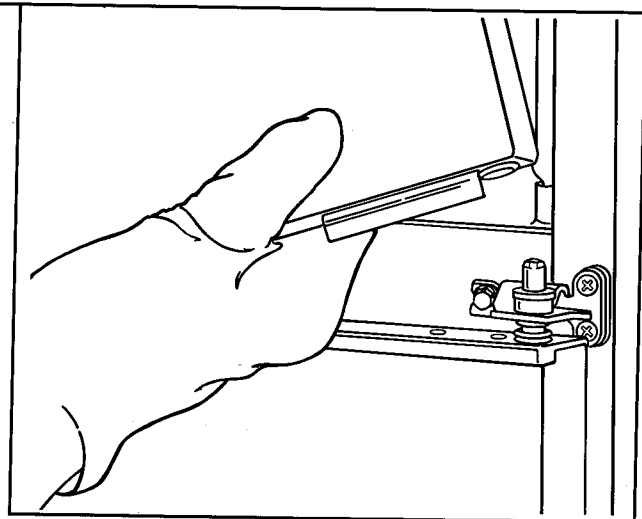

Figure 75
b. Place door on cabinet by fitting bottom right socket over pin on center hinge. See Figure 75.